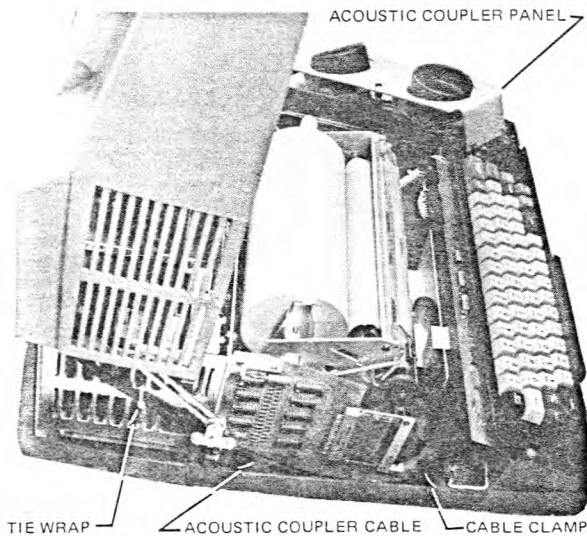

FIGURE 2-7.6. INSTALLING THE ACOUSTIC COUPLER PANEL CABLE
- (2) Press the cable into the cable clamp slots.
- (3) Loosely attach the cable to the PC card rack using a cable tie-down strap as shown in Figure 2-7.6.